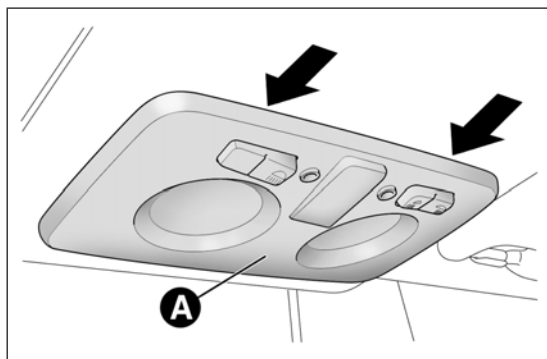
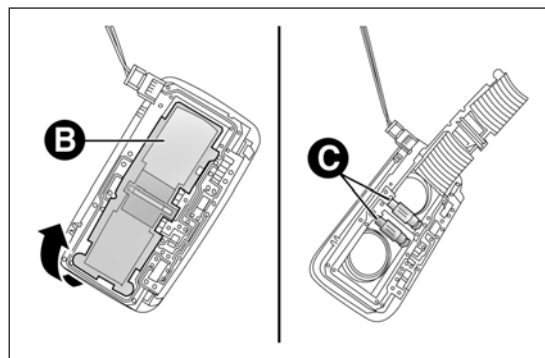

fig. 140
fig. 141
- ❑ remove the roof light A fig. 140 working at the points indicated by the arrows;
- ❑ open the flap B fig. 141 and replace the bulbs C releasing them from the side contacts. Make sure that the new bulbs are correctly secured between the contacts;
- ❑ reclose the flap B fig. 141 and fix the roof light A fig. 140 in its housing making sure that it is locked.